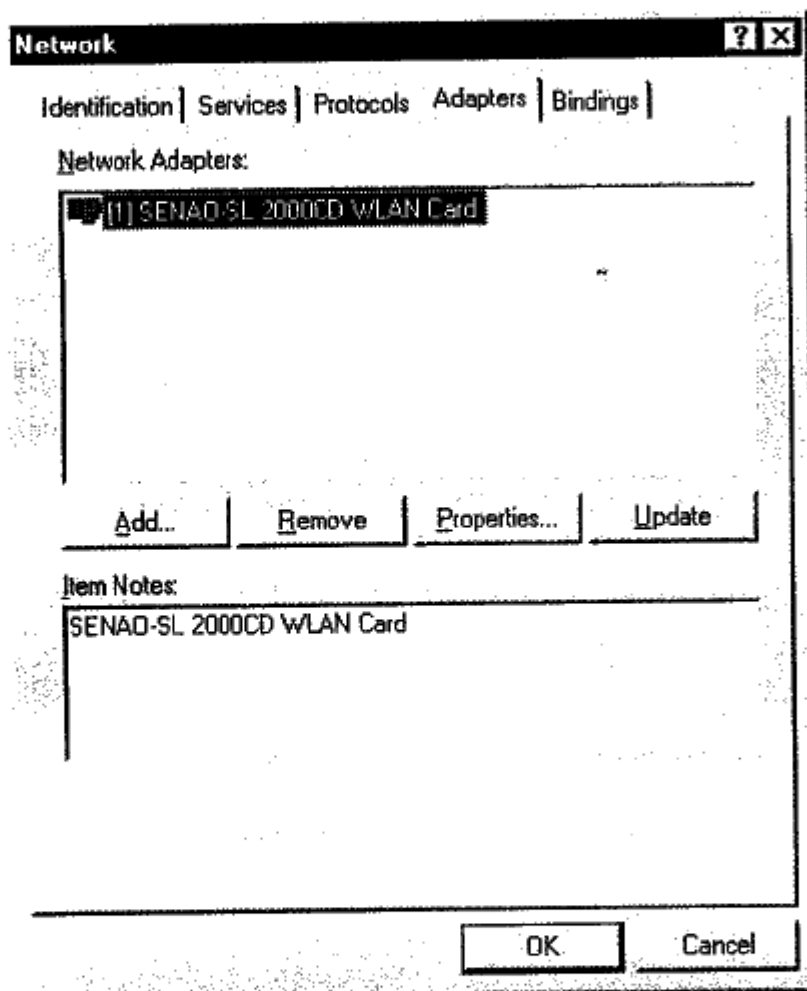

Figure 3-22
- ◆ If networking support was already installed, you will see a window with multiple tabs. Select the "Adapters" tab, and then click the "Add" button as shown in Figure 3-22. When prompted for the driver, follow the "Installing Procedure" in next paragraph.